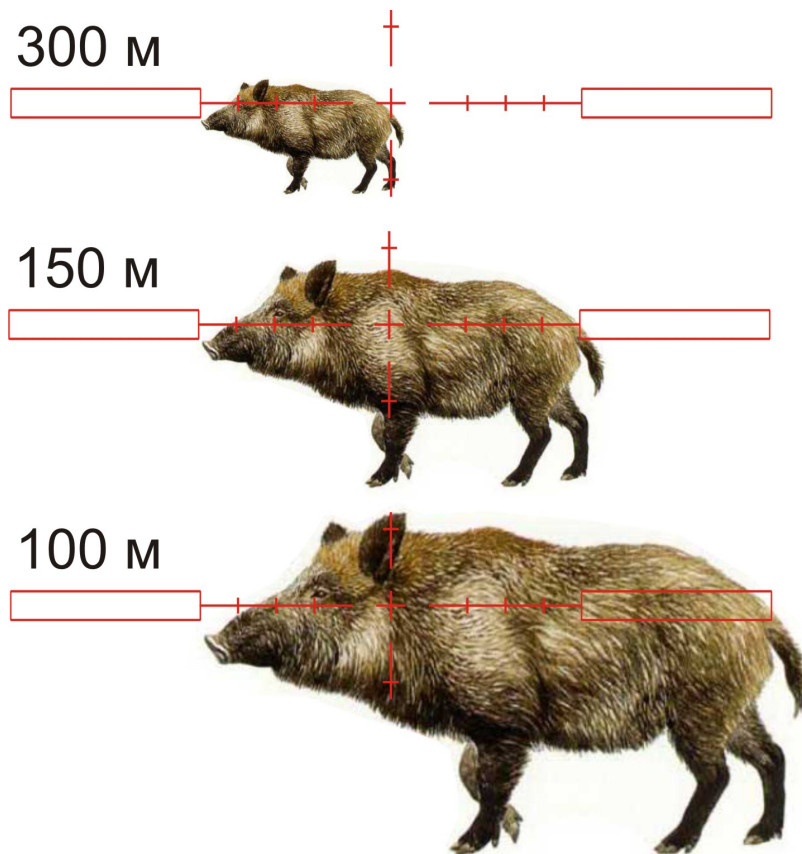

Fig.4
- 2) Move the crosshair so that one side of the target above the horizontal line could match a Mil Dot matchmark (see Fig. 4).
On Fig. 4 you can see an example of such evaluation for Dedal-460: distance to a 1.5 m wild boar as per Mil Dot reticle (5, 10 and 15 divisions relevant).